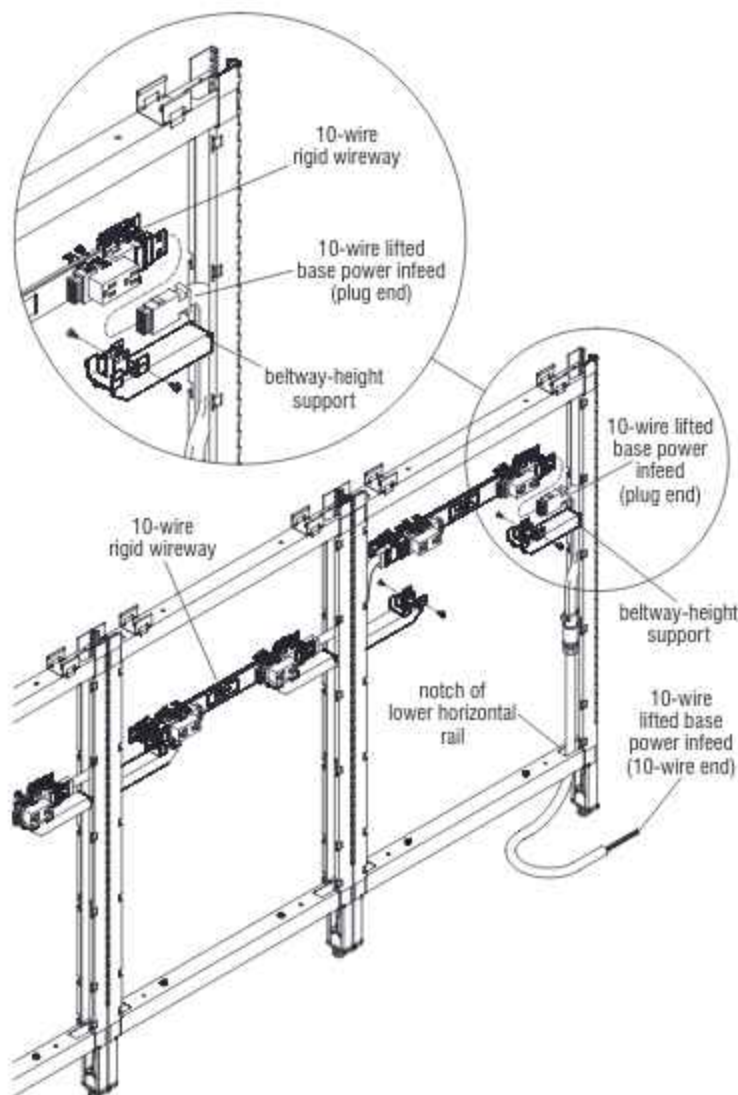

Figure 12 - 10-Wire Lifted Base Power Infeed
1. Position the 10-wire lifted base power infeed inside the vertical channel of the frame upright, and route the plug end of the infeed up and over the top of the beltway-height support bracket as illustrated (Figure 12).
2. Remove the screws attaching the 10-wire rigid wireway to the beltway-height support brackets, move the wireway away slightly and plug the power infeed into the rigid wireway. Once secure, re-attach rigid wireway to support brackets (Figure 12).
3. Lastly, route the 10-wire end of conduit down through the notch in the lower horizontal rail next to the vertical frame upright and let rest on the floor (Figure 12)